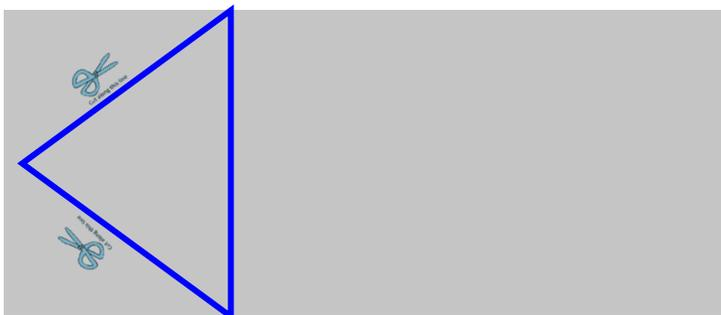

Figure 4
- Lay the template on the folded tissue paper (4 thicknesses). Align the apex (triangle) with the top edge of the tissue paper and cut off the exposed tissue paper along the edges of the triangle on the indicated cut lines. (Figure 4)